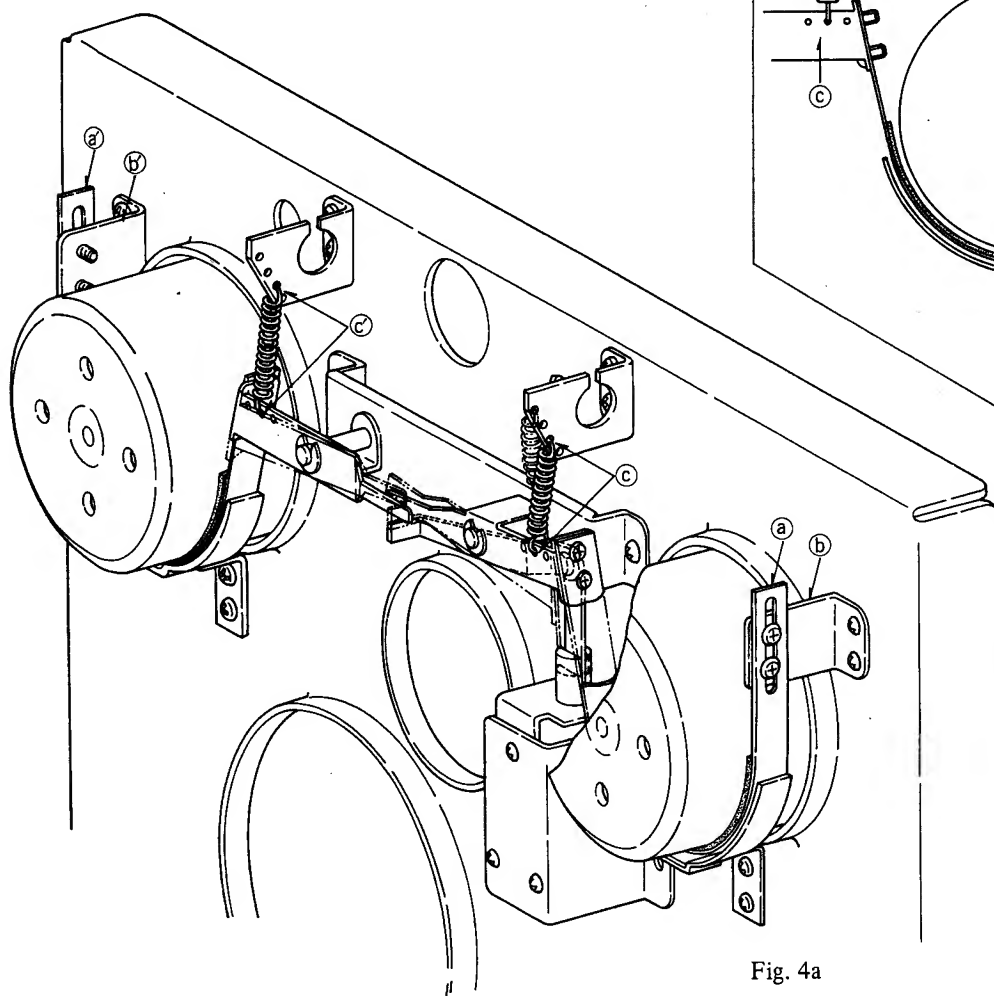

Fig. 4a
- 2) One end of the Brake Band is centered in the elliptical hole in the Brake Band, as shown by (a) (a') in Figure 4a.
- 4) Adjust the set position of the Brake Band Spring so that Brake tension is 150 grams (using 60 mm diameter tape and measuring with a Tension Gauge) (See Figure 4a (c) (c')).